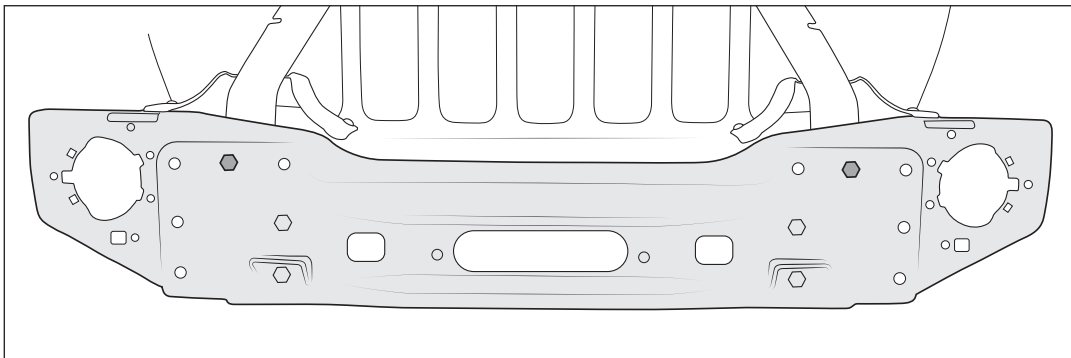

Figure 16
6. Install and snug two (2) additional M12x35mm bolts and washers through the top center hole on each side to properly locate the tube weldment to the fairlead stamping (fig. 16).